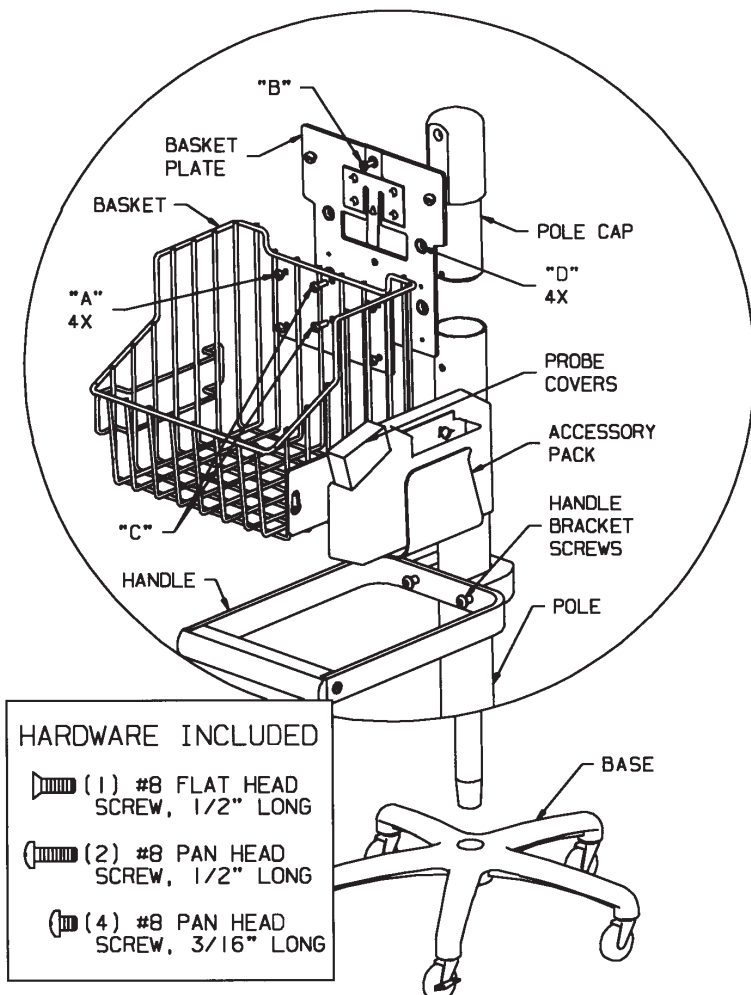

Figure 1
(Refer to figure 1 for the following instructions)
4) Assemble BASKET to BASKET PLATE by inserting (4) #8 X 3/16" long phillips screws through four holes designated "A". Securely tighten screws.
5) Assemble BASKET PLATE to POLE CAP using (1) #8 x 1/2" long phillips flat head screw inserted through top hole "B" in BASKET PLATE and into top threaded hole in POLE CAP. Do not securely tighten screw.
6) Align two "C" holes in BASKET with corresponding holes in POLE and insert (2) #8 x 1/2 long phillips screws. Securely tighten these screws and screw assembled in step 5.
8) *For Model #5200-60 only*, attach ACCESSORY PACK by orienting as shown in figure 1 and inserting onto side plate of BASKET and pushing up. This will lock ACCESSORY PACK onto BASKET.